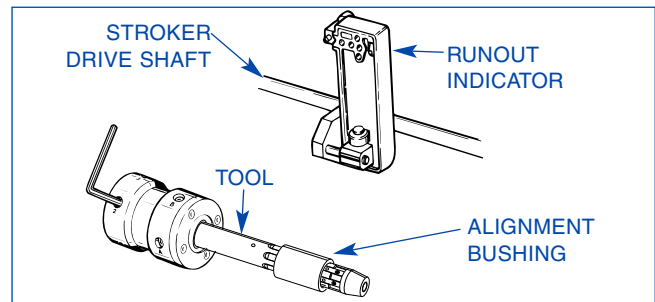

FIGURE 2-18, Runout Indicator
6. Attach Runout Indicator to Stroker Drive Shaft (see Figure 2-18):